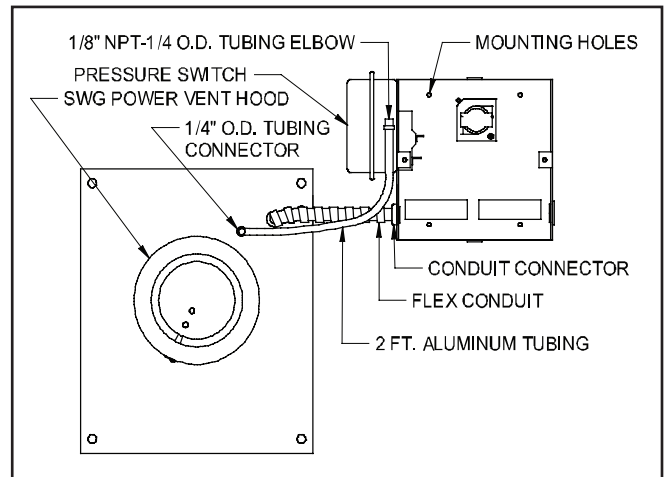

Figure 3
2. Fasten the flexible conduit from the SWG Venter into the conduit connector. Mount the CK-41F junction box or installer supplied junction box onto the wall or floor joist without straining the flexible conduit. Fasten the CK-41F junction box through the four dimpled locations on the base of the box. (See Fig. 3)
1. Attach the 1/4" tubing connector to the pressure tube on the SWG Venter. (See Figure 3)